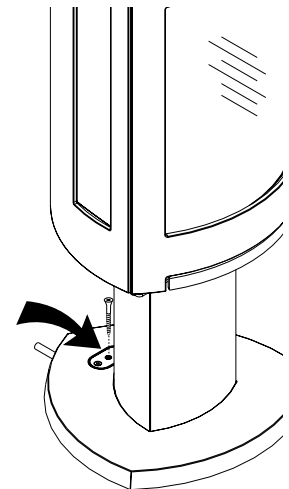

Figure 1.
5. Remove Pallet Screw. See fig. 1.